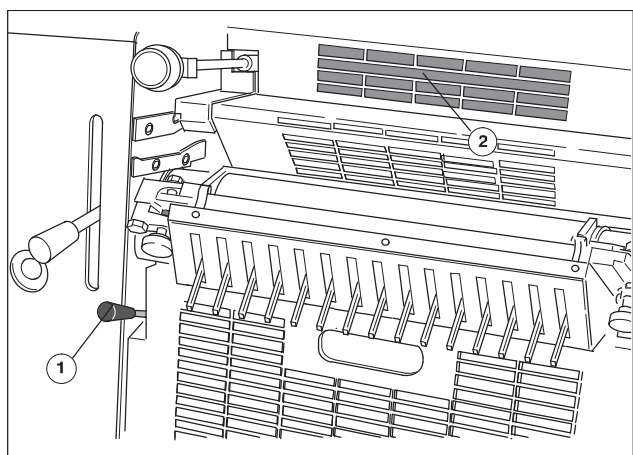
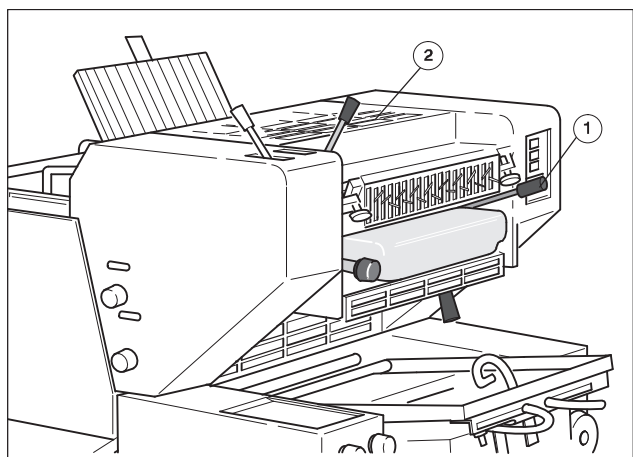

Fig. 65 Washing the inking unit guard, PU 1
Fig. 66 Washing the inking unit guard, PU 2
3. Spray a bit of roller wash through the slot in the guard (PU 1, Fig. 65/2) onto the inking rollers/dampening rollers. On the PU 2 spray through the long slot above the inking unit (Fig. 66/2).
4. Move the lever of the inking roller washup device (PU 1 Fig. 65/1, PU 2 Fig. 66/1) upwards: the washup blade is engaged.
7. When the washup blade no longer scrapes off any ink, move the lever of the inking roller washup device (PU 1 Fig. 65/1, PU 2 Fig. 66/1) downwards. The washup blade is disengaged.